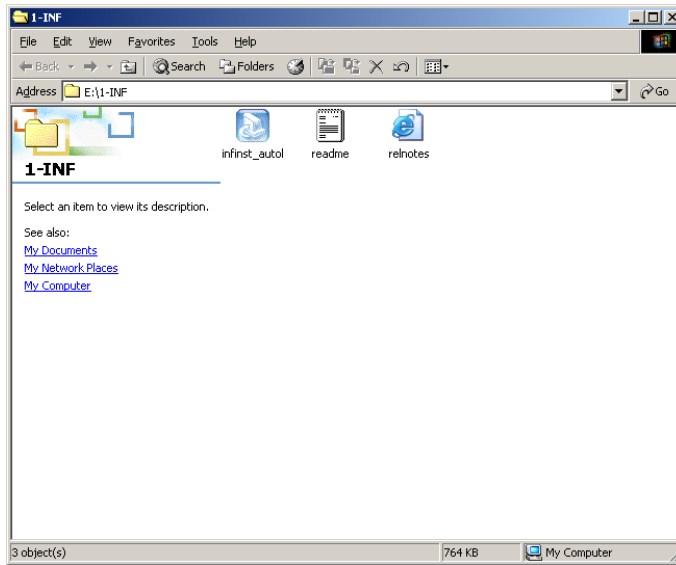

Figure 6-2: Chipset Driver Installation Program
Step 2: A new window opens (**Figure 6-2**).
Step 3: Double click the **infinst_Autol** icon in **Figure 6-2**.